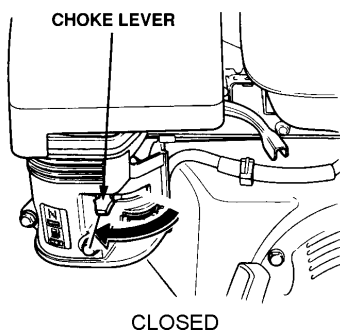

Figure 8. Engine Choke Lever (Closed)
4. Place the choke lever (Figure 8) in the **CLOSED** position if starting a cold engine.